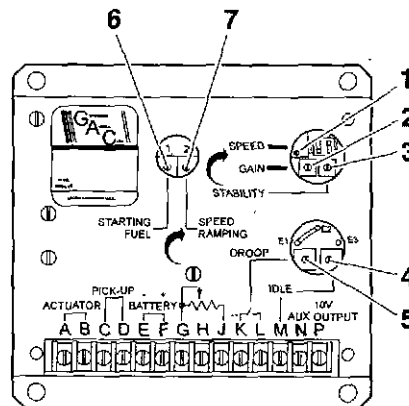

Fig. 3. Control unit ESD5500 with the rubber plugs removed.
The electronic control Unit (fig 3) compares the incoming signals with the pre-set values, and a correcting signal or an unchanged signal is transmitted to the actuator.
1. **Adjusting the idling speed** (marked "IDLE"), (4, fig. 3) is done with a single turn potentiometer. The idling speed can be adjusted with a jumper between the terminals "G" and "M" installed.
2. **Adjusting the operating speed** ("SPEED"), (1, fig. 3) is done with a 22 turn potentiometer.
3. **Governor sensitivity.** The governor's sensitivity is adjusted by a single turn potentiometer ("GAIN"), (2, fig 3). A small change of frequency can be noticed when adjusting the sensitivity. This can be adjusted by the "SPEED" potentiometer (1).
4. **Stability control.** The governor's time constant is adjusted by the single turn potentiometer ("STABILITY"), (3, fig 3).
5. **Droop.** The droop control (5, fig 3), marked "DROOP" is working when terminals "K" and "L" are connected. The adjustment range is 1-5%. Turning **clockwise will increase** the value.